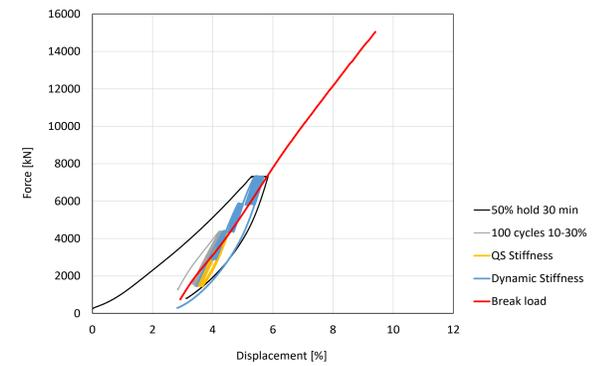

Figure 2. Load-elongation Curve of Full Rope Test
- **The tensile test results exceeded the design strength (Figure 2).**